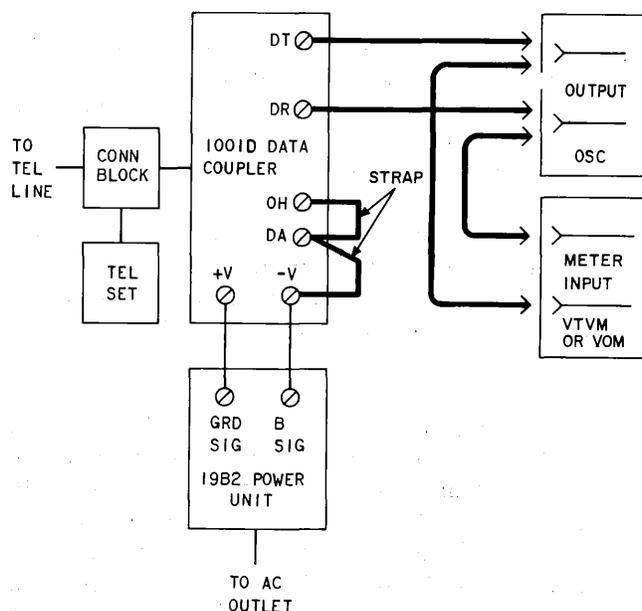

Fig. 15—Test Equipment Connections for Impedance Matching Test
- (1) Set the oscillator for a 1000-Hz frequency and a 600-ohm output impedance.
- (2) Select the proper scale on the VOM to measure -5 dBm.
- (3) Connect the test equipment and straps as shown in Fig. 15.